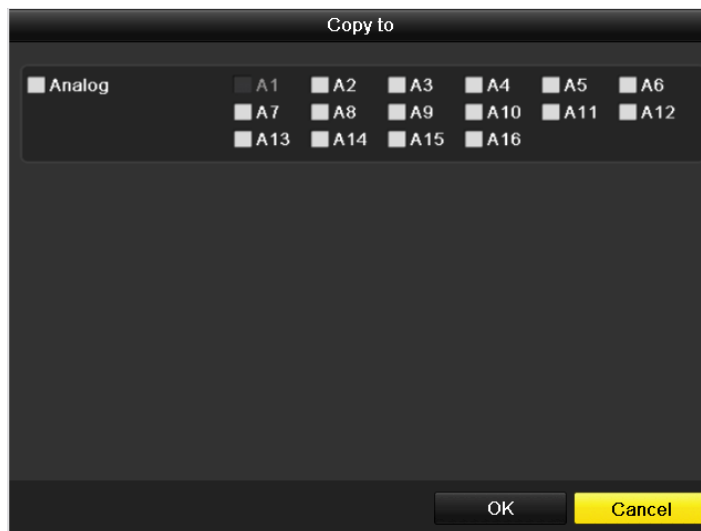

Figure 2.8 Copy Record Settings
- 4) Click **Copy** to copy the record settings of the current camera to other camera (s) if needed, as shown in Figure 2.8.